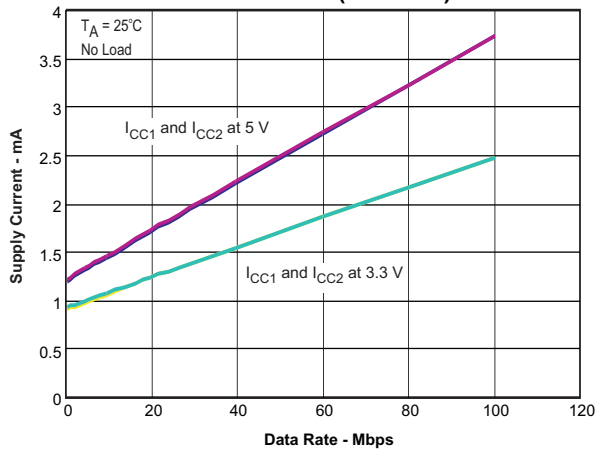
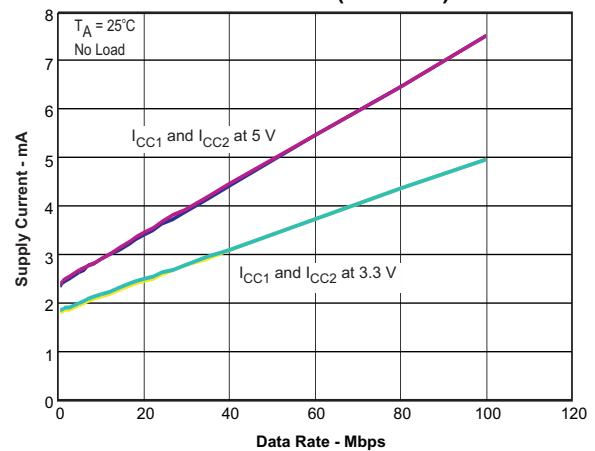
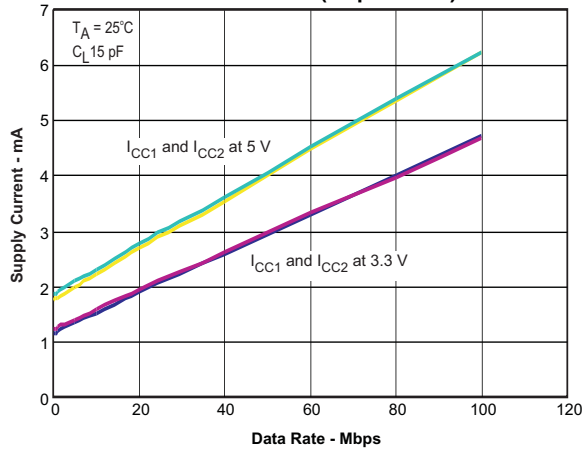
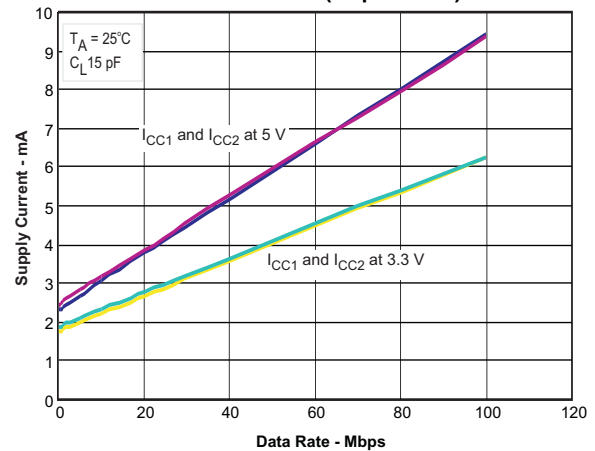

Figure 12.
Figure 13.
Figure 14.
Figure 15.
- Added graphs Figure 12, Figure 13, Figure 14, and Figure 15 14